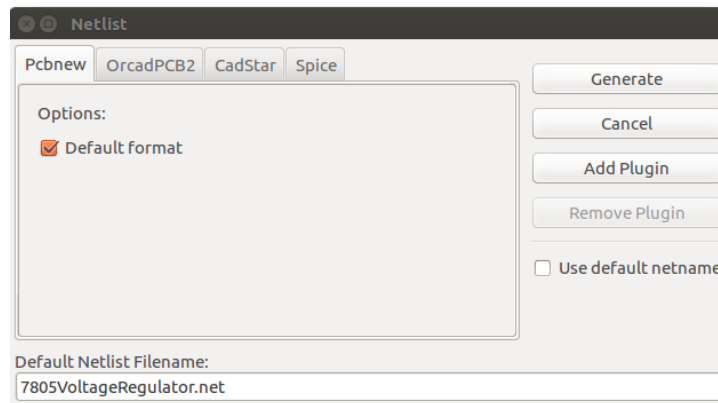

Figure 14.9: Netlist generation for PCB
3. In the Netlist window, under the tab *Pcbnew*, Select the option **Default** format. This is shown in Fig. 14.9. Click on **Generate** option.